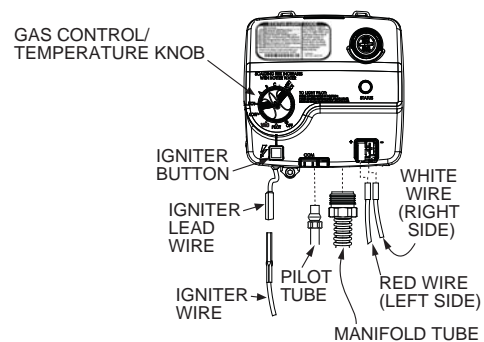
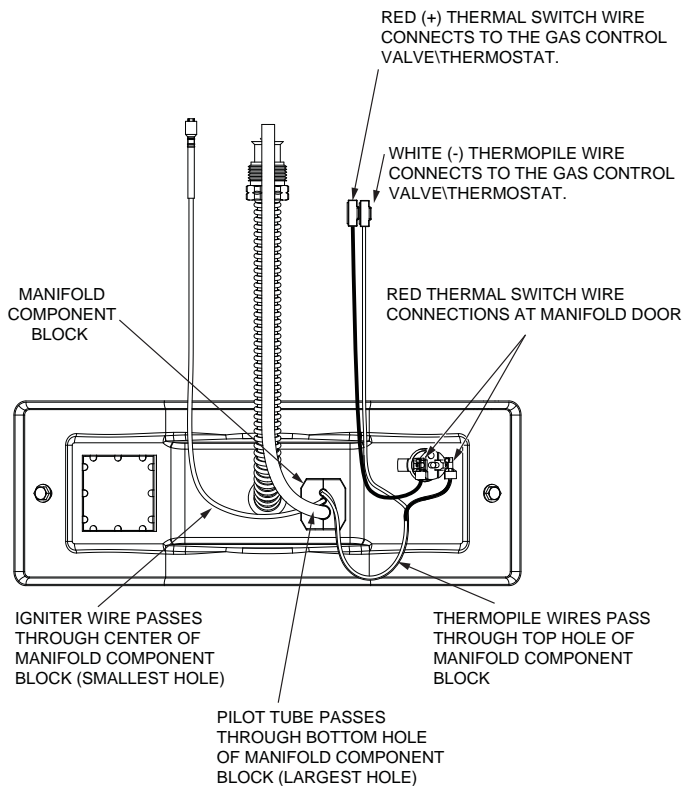

FIGURE 22.
FIGURE 27.
5. Disconnect the following from the gas control valve/thermostat: pilot tube (7/16" wrench), igniter wire (from the igniter lead wire), and manifold tube (3/4" wrench). See Figure 22.
6. Disconnect the white and red wires from the gas control valve/thermostat (Figure 22). Use needle nose pliers to grip the connector(s). **IMPORTANT:** Grip the connector carefully to prevent damage. Do not grip or pull the wires themselves.
- Reinstall the manifold component block in the manifold door. Ensure that the pilot tube and wires are positioned as shown in Figure 27.
6. Reconnect the manifold tube (3/4" wrench) and pilot tube (7/16" wrench) to the gas control valve/thermostat (Figure 22). Do not cross-thread or apply any thread sealant to the fittings.
7. Connect the white and red wires to the gas control valve/thermostat as shown in Figure 22. Also, ensure that the red thermal switch wires are connected to the thermal switch on the manifold door (Figure 27).
8. Reconnect the igniter wire (Figure 22).
4. Disconnect the igniter wire from the igniter lead wire. Use needle nose pliers to disconnect the red (+) and white (-) thermopile wires. Disconnect the pilot tube (7/16" wrench) and manifold tube (3/4" wrench) at the gas control valve/thermostat (Figure 22).